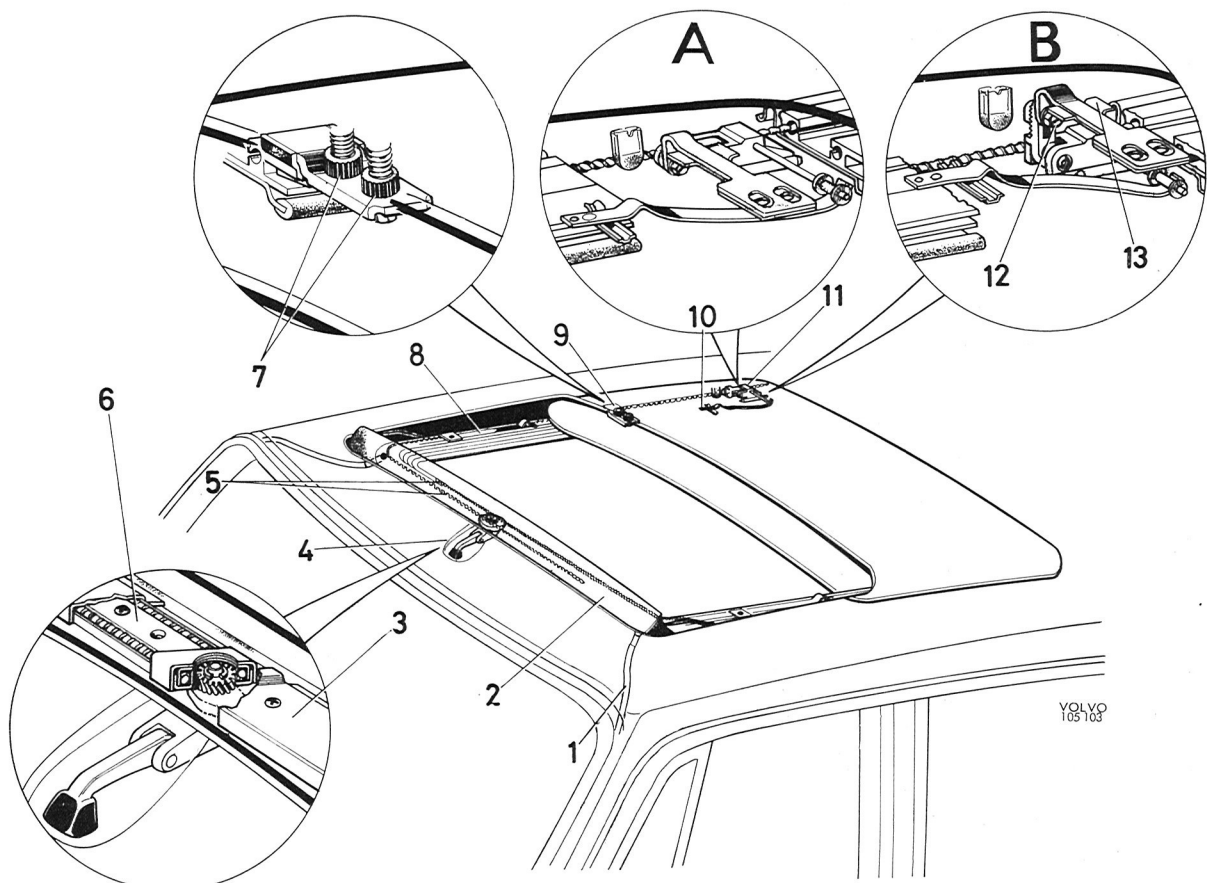

Fig. 8-27. Sun roof
2. Crank the sun roof forwards and slacken the screws at its four attachments (9 and 11, Fig. 8-27). Bend the leaf springs (10) to the one side and remove the reinforcing plates (13) at the rear attachments. Lift off the sun roof.
3. Remove the wind deflector (2).
4. Remove the intermediate pieces (8), covering strip (3) and holders above the drive. Release the front guide rails (6) and pull out the cables (5).
5. Crank the sun roof forwards until it is completely closed and check that it is level with the roof. To adjust vertically, use the front adjustment (7, Fig. 8-27) and the lifts at the rear adjustment (12). Also check that both the lifts stand straight up when the roof is closed.
6. The crank and housing (4). Turn the crank to the stop position on the removed gear housing.